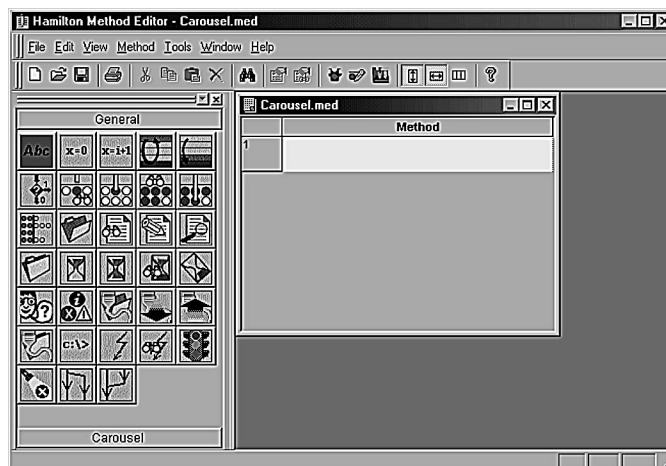

Figure 18: Hamilton Method Editor with Carousel command bar
5. Click on the check box for the Carousel and click OK. The Hamilton Method Editor appears (figure 18), but now it has a set of instrument commands for the carousel.